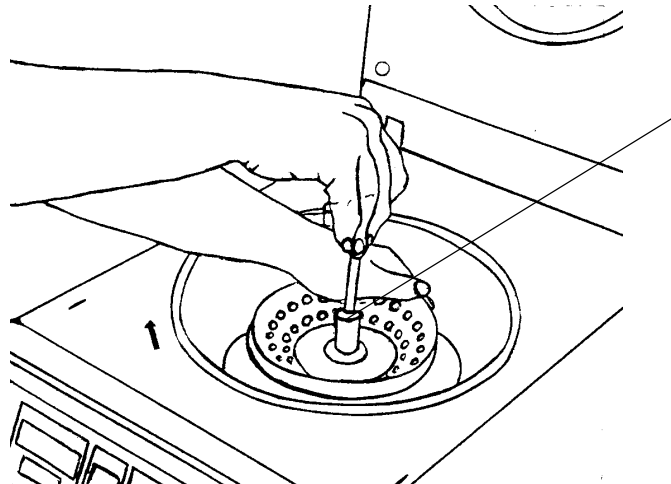

Figure 2
Hold the rotor with one hand and secure the rotor to the shaft by turning the rotor nut (1) counter-clockwise (see figure 2).